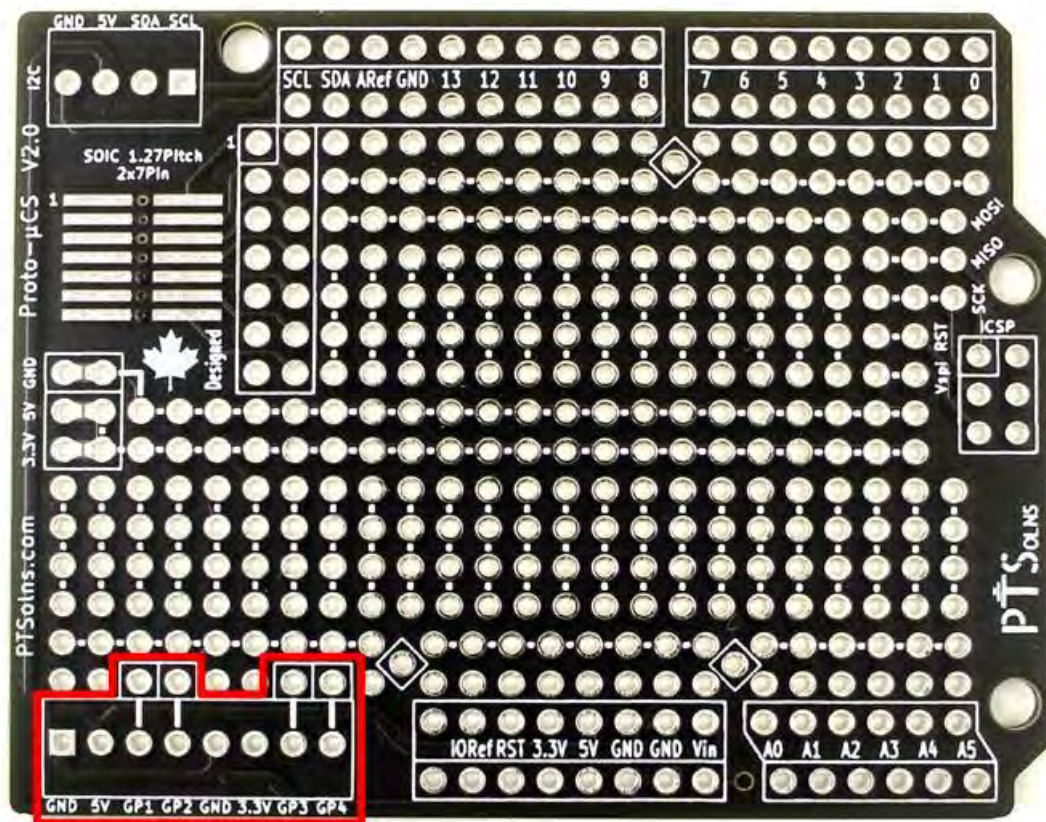

Figure 5: General purpose breakout.
At the bottom-left corner of the *Proto-Shield* is a general purpose (GP) breakout, as seen in Figure 5. The GP breakout has the following pin arrangement (from left to right): GND, 5V, GP1, GP2, GND, 3.3V, GP3, GP4. Each of the four GP pins has a corresponding electrically connected adjacent pin, which can be used to connect the desired signal to. The footprint of the GP breakout is designed to accept an 8-pin 2.54mm screw terminal. However, a male or female header, or anything else similar, can be used in this footprint.